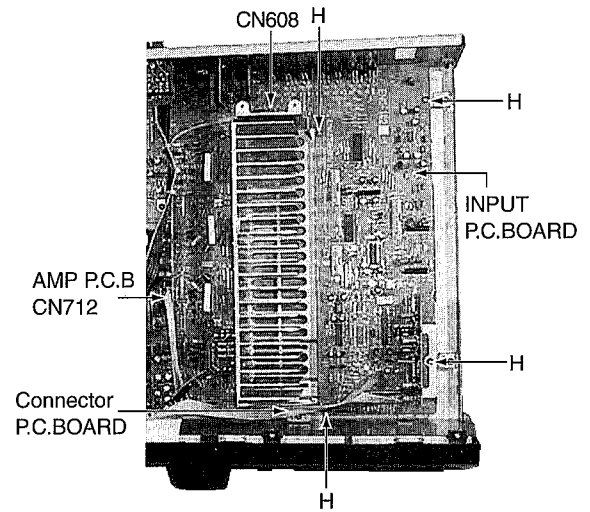

Fig.6
## (6) INPUT P.C.BOARD Removal (Fig.6)